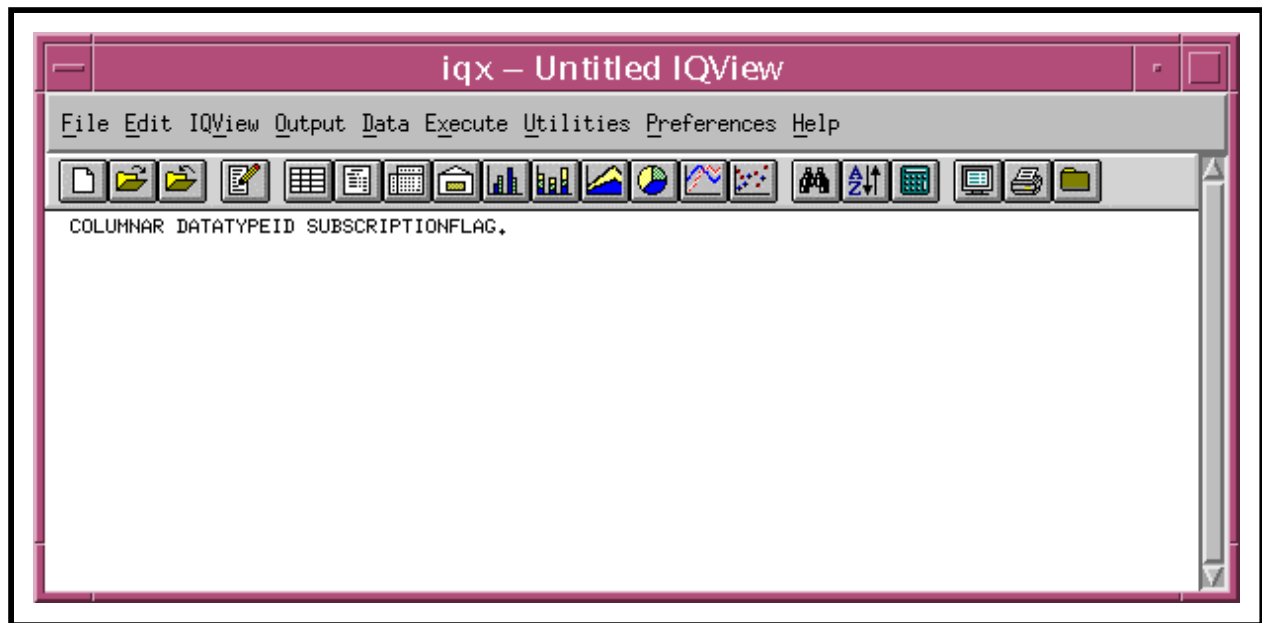

Figure 26.22.1-7. iqx IQView GUI
- The columnar selections are listed on the **iqx IQView** GUI as shown in Figure 26.22.1-7.